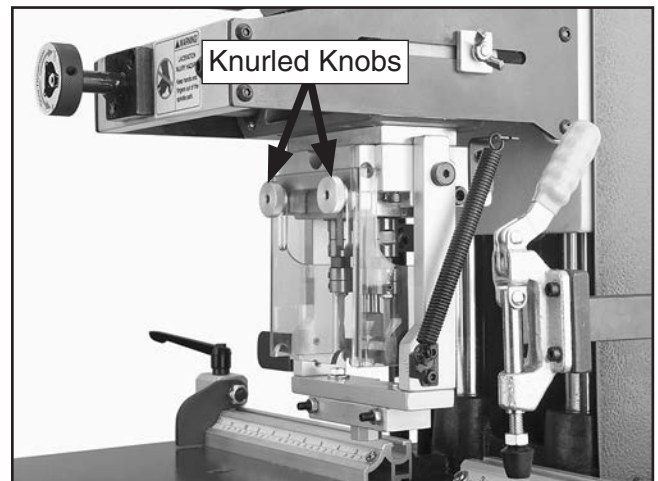

Figure 20. Clear guard installed.
13. Install the clear guard (see **Figure 20**) with the knurled knobs.